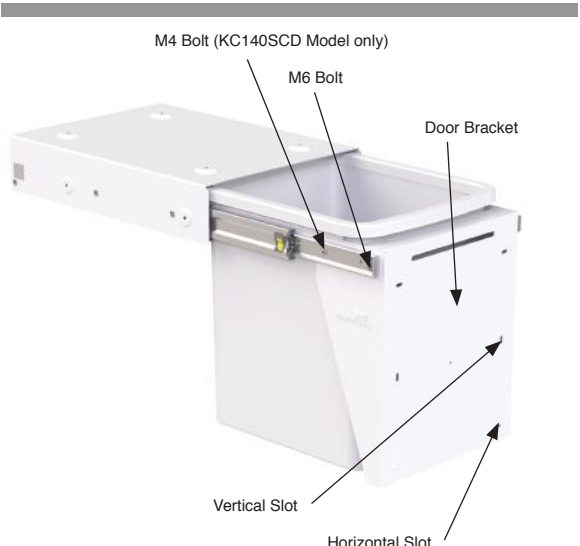

FIG 2 - Door Pull Model
The door bracket is not assembled in this model. It should be assembled using the 2 x M4 and 2 x M6 nuts and bolts provided. Refer to Fig 2.
Step 5 – Mounting and Adjusting the Door Panel (Door Pull Models Only) Refer FIG 2